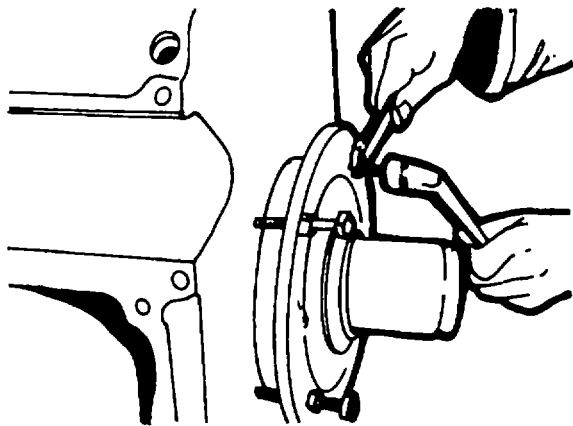

Figure 5-28. Pressing End Shield
26. Press the end shield into position by applying pressure uniformly at diagonal locations (use press-in device No. 003-0670, figure 5-28).